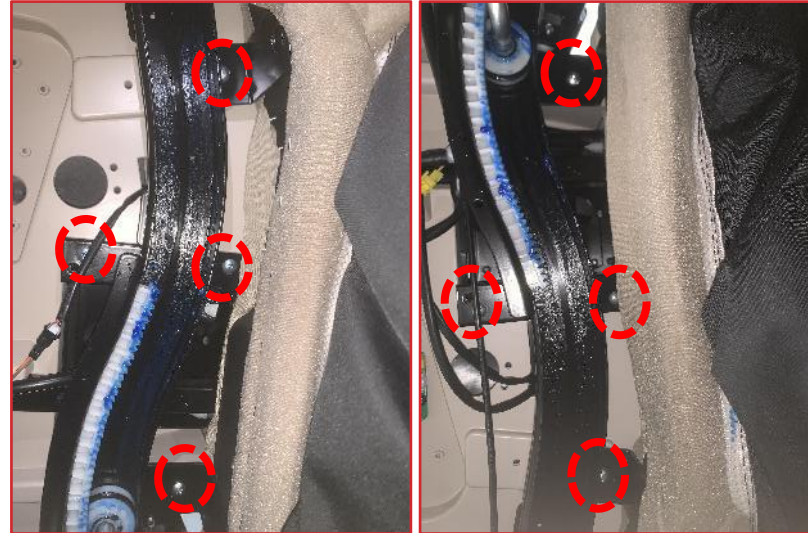

Figure 2
2. Remove the left and right 4 fixing screws (Figure 2)